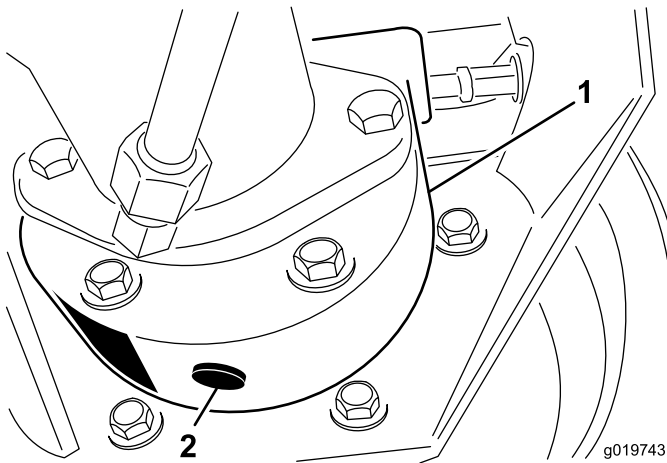

Figure 64
3. Place a drain pan under the brake housing, remove the drain plug and allow the oil to drain (Figure 64).